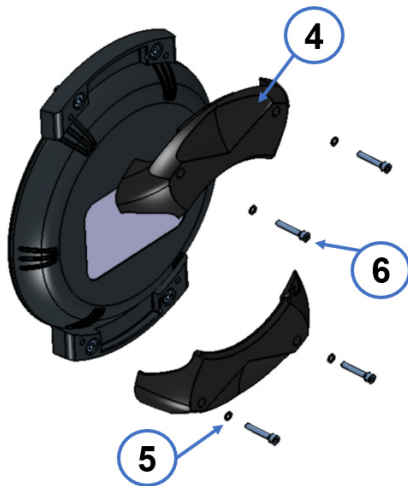

Figure 6
- 1.9. Take the external supports (4) (fig. 6) supplied and proceed with fixing with washer (5) and screws (6).